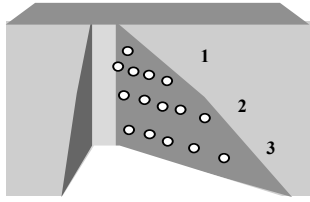

Fig 02.01-B2 Five horizontally dispersed point-samples are collected from each of three depths or zones within each cutout.
12.1 *Cut into Finished Compost*—Using tractor skid-loader, bobcat or shovel, or sample boring device, cut into the finished compost pile or windrow at five or more randomly selected positions. Collect samples from the full profile and breadth of the compost windrow or pile. Refer to Fig 02.01-B1.
12.2 *Collect Point-Samples*—Samples of equal volume are extracted from the compost pile at three depths or zones measured from the pile’s uppermost surface. Collect no less than five point-samples from each of the three depths or zones illustrated in Fig 02.01-B2. The five point samples for each zone must be collected in a manner to accurately represent the horizontal cross-section of the windrow or pile. Use a sanitized sampling tool (a gloved hand, clean shovel or auger) when collecting samples and when transferring samples to the 5-gal sample collection pail.